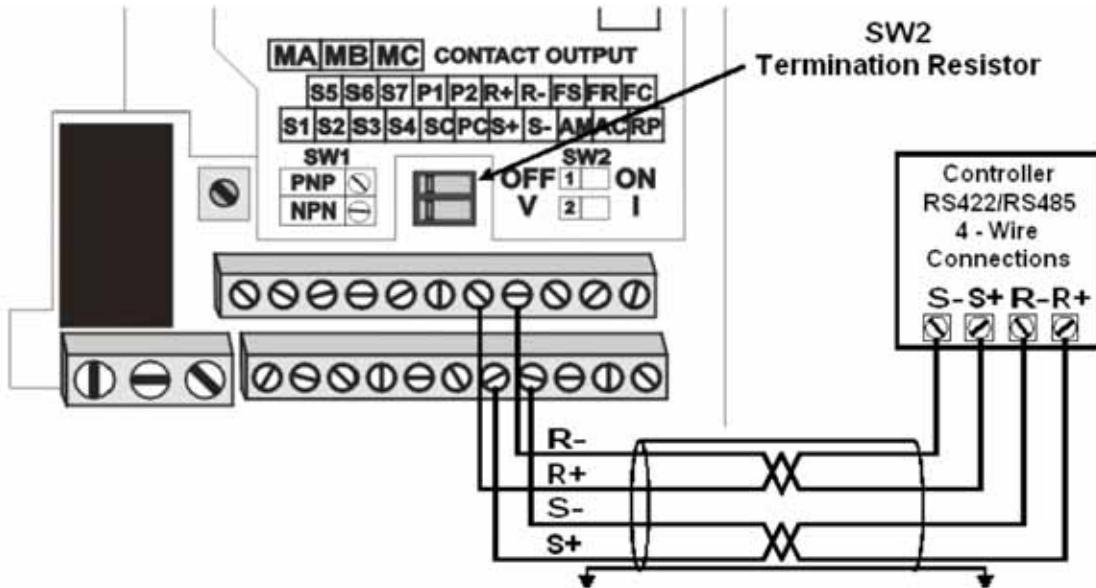

Figure 1.3 RS-422/RS-485 4-Wire Network Connection
- 5.2:** Connect the controller to the S+/S- and R+/R- terminals on the V7 drive's terminal block as shown in *Figure 1.3 RS-422/RS-485 Connections*.